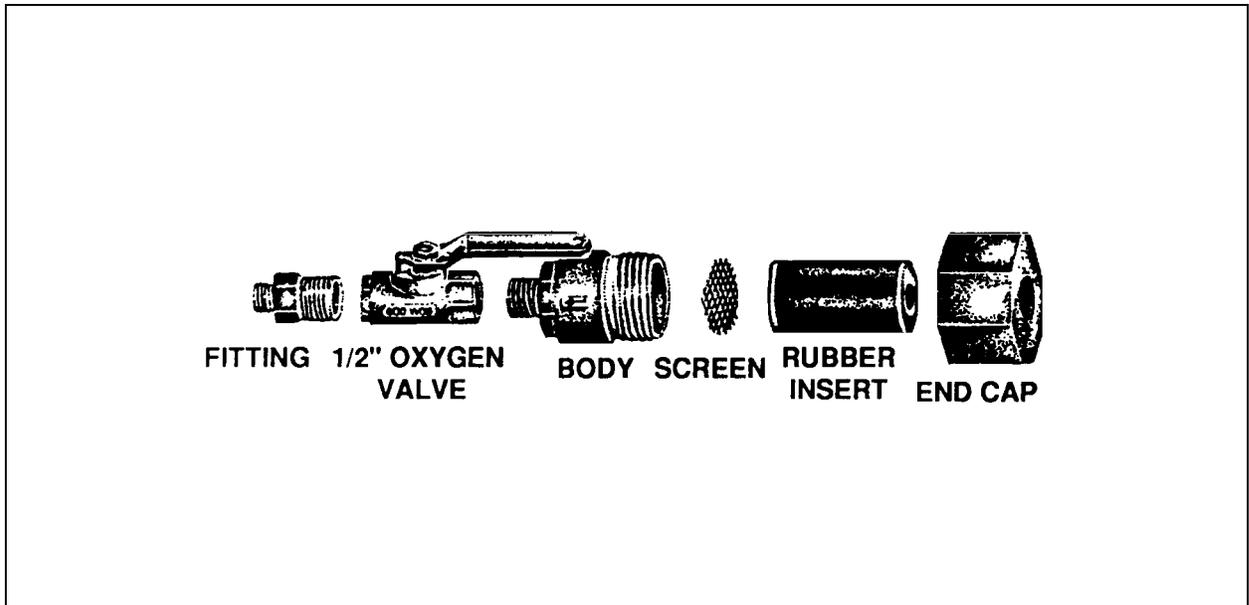

Figure E-2. Thermic Lance Holder Assembly.
- c. Connect lance holder, Figure E-2, to hose.
- k. The Thermic lance is now ready to use. Place it against the work-piece and begin cutting. Figures E-2 and E-3 show a thermic lance equipment set up.